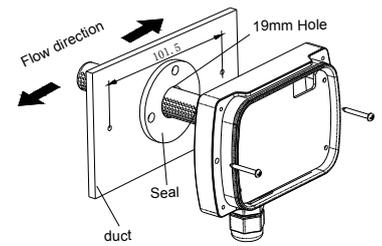

Fig.4
2. Install the enclosure directly on the duct as Fig.4. Drill a $\phi 19\text{mm}$ hole on the duct, insert the probe into with the seal ring, and screw the enclosure on the duct directly.